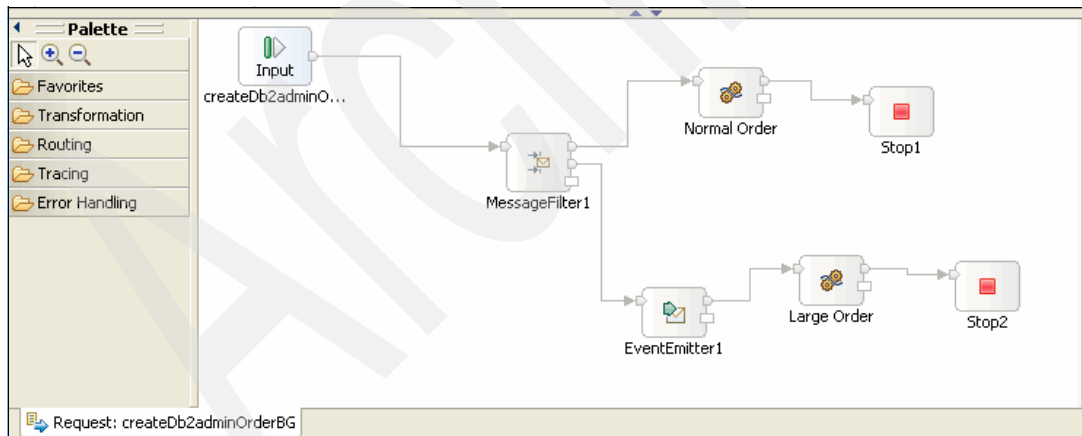

Figure 6-95 No warnings
8. Save your work. There are no warnings now (Figure 6-95).